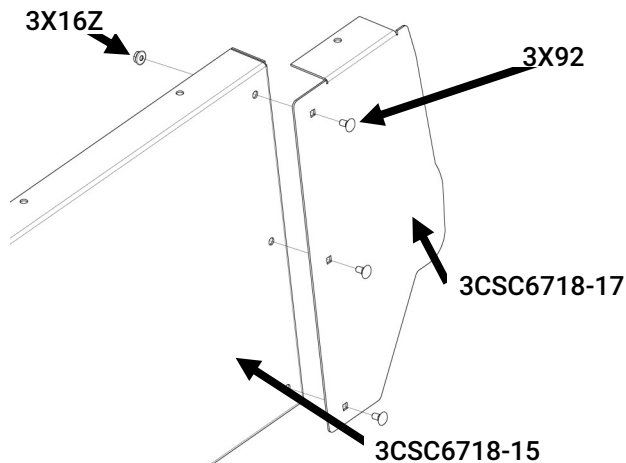

Figure 8
B. Align the (3) holes in the driver wing [3CSC6718-17] with the corresponding holes on the front of the front cover and loosely secure with (3) [3X92] carriage bolts and (3) [3X16Z] whiz nuts. The whiz nuts should be on the back side of the panel (Fig 8).
C. Repeat step B. for the passenger wing [3CSC6718-16] using (3) [3X92] carriage bolts and (3) [3X16Z] whiz nuts. The front cover can be leaned forward to gain access to the back of the carriage bolts but ensure that the wings are tucked into the nearby pockets on the OEM trim panel.